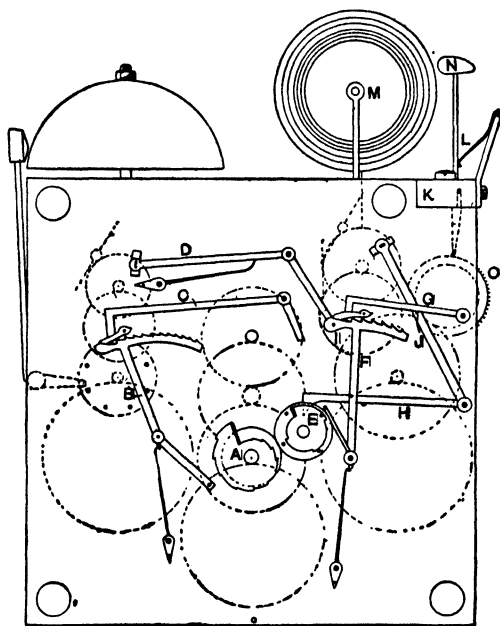

Fig. 80.—Going and Striking Trains of Grandfather Clock
The frame having been made, the going and striking trains can be "pitched in." Fig. 80 shows the position of wheels, etc., and the letter references are thus explained: A the hour snail, B the hour rack, C the hour-rack hook, D the hour warning lever, E the quarter snail, F the quarter rack, G the quarter-rack hook, H the quarter lifting and warning lever, I the pin in the quarter rack, J the lifting-pin in the warning lever, K the chime-hammer rack, L the chime-hammer springs, M the chime bells, N the chime hammers, and O the chime barrel or drum and pins.
wheel holes must be at exactly the same distance from the centre-wheel holes of the going train as in the old movement, or the striking rack will not be correct. This distance must be most carefully made exactly the same as before, and may necessitate the pin-wheel being placed in a different position from that shown in either Fig. 78 or Fig. 80. The position of the pallet-wheel pivot-hole must be first determined, and the pin-wheel then planted in such a position as to run properly with both main-wheel and pallet-wheel pinion. The back plate will require cutting to admit of the pallets being taken out, and the back cock or pendulum suspension cock must be screwed on in its proper place. In pitching the going train, the barrel must be placed as low as possible without fouling the wooden seat board. The hour hammer and its check spring, etc., can be re-planted in the new frame as in the old one. Possibly, the hammer may want a longer stem, on account of the increased height of the frame.
amount and direction of the alterations necessary to restore the rack action to its previous accuracy. The warning lever, which engages the pin in the warning wheel, can be planted as shown in Fig. 80, a new tail made to it, and the necessary slot cut in the front plate. But the old rack hook will be discarded for one of a different shape. Its stud, however, can be used again in a new position.
**Chime-barrel Arbor.**—The chime-barrel arbor is made of a piece of steel wire about  $\frac{3}{16}$  in. thick, turned up true and pivoted and polished like the rest. Before proceeding with this, it will be necessary to decide whether single four-bell or eight-bell chimes are wanted, or both; because if both are wanted and a changing mechanism, the arbor will need to have an "end-shake" between the plates, or a "pump action" of  $\frac{1}{8}$  in. to allow of the change of chimes. In Fig. 81 this is shown to be the case. Having turned the arbor, mount the 40 wheel on it so that it will gear properly with the 80 wheel in both positions of the arbor, allowing for the shifting. The chime barrel is made from the brass tube already specified. First drive on and solder brass discs to form the ends; turn them true and then solder on the tube, afterwards turning that true all over. Make it the whole available length of the arbor. The complete chime train can then be pitched between the plates, as shown in Figs. 80 and 81.
**Bells, Hammers, etc.**—The set of eight chime bells, forming a complete octave, is mounted on a spindle, supported by two uprights screwed to the back and front plates respectively. Small wooden washers,  $\frac{1}{8}$  in. apart, are placed between each bell and its neighbour so as to separate them, the eight bells thus ranging over  $1\frac{7}{8}$  in.; if the pillars are only 2 in. long the bells must be spaced more closely. The eight hammers work in slots cut in a brass block screwed across the top corner of the frame in recesses cut for it, as shown in Fig. 80. It should be about  $\frac{3}{4}$  in. wide,  $\frac{3}{8}$  in. deep, and the length equal to the width of the frame.
The hammer heads are of brass, and are driven or screwed on. The hammer springs are made from a thin piece of brass, and are like a comb with eight teeth, the whole being fixed to a support, as shown in Figs 80 and 85. The hammer stems should be bent
As the clock approaches a quarter, one of the four pins marked on the minute wheel **E** in Fig. 80 advances and begins to raise the lever **H**. This also raises **J** (in one piece with it) and the quarter rack hook **G**. The quarter rack **F** then falls until its tail rests on the snail **E** (with four steps). The rack, in falling, releases the gathering pallet and the chiming train "warns," being stopped by the pin in the warning wheel coming in contact with the steel block in the warning lever. The train is thus held stationary until, as the minute wheel **E** advances, the pin finally passes the warning lever **H**, and the latter falls, at the same time releasing the pin in the warning wheel and allowing the rack hook **G** to fall, and the clock chimes the quarter. That is to say, supposing the rack **F** fell on the first step of the snail **E**, it would fall a distance equal to one tooth. Therefore, the gathering pallet would make one revolution and gather up the one tooth, coming again to rest on the pin in the rack. One revolution of the pallet wheel being equal to one-fifth of a revolution of the chiming drum, the latter would move one-fifth of a turn and chime one "peal," or one quarter, it being spaced into five divisions, each having one "peal" pinned on it.
During all this time the striking train is locked by the gathering pallet being in contact with the pin in the hour rack B (Fig. 80). The pin I in the quarter rack goes right through and projects on both sides. The front portion locks the quarter gathering pallet, the back portion engages with the tail end of the hour warning lever, and when the rack is all gathered up, pulls this tail up, leaving the striking train free to run as far as the pin in the warning wheel is concerned. It, however, cannot run because it is locked by its gathering pallet. When the quarter rack falls, the hour warning lever rises, its tail end being released, and is in a position to intercept the pin in the hour warning wheel.